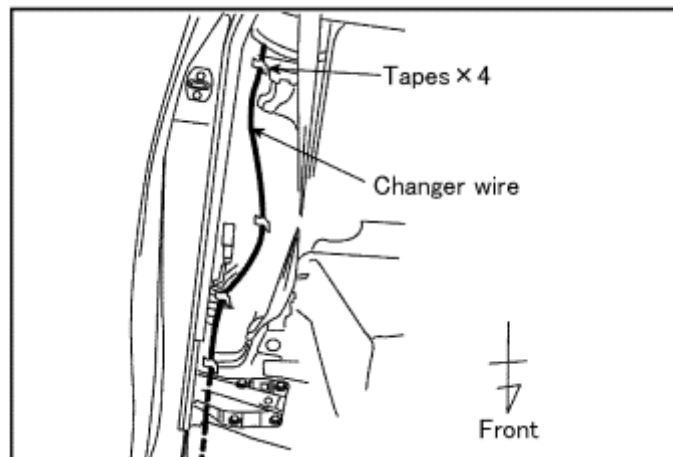

Figure O1
-  1. Route Changer wire along rear wheel well and through duct hole to trunk area. (Figure O1)
-  2. Take up slack and place tape on harness in positions shown. (Figure O1)